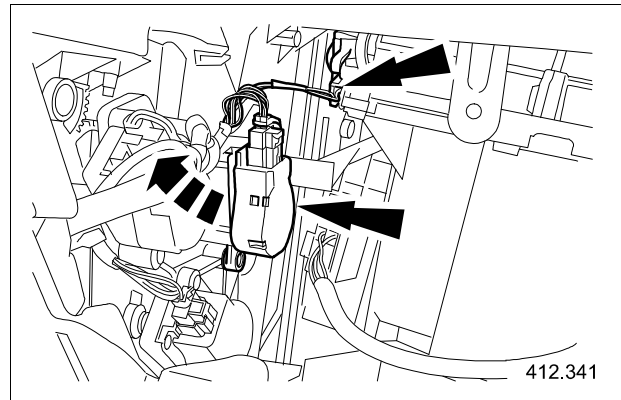

Fig. 5
- 13 Disconnect the air inlet blend door actuator electrical connector, undo and remove the climate control upper front stepper motor securing screws and displace the climate control stepper motor and reposition to gain working access (see Fig. 5).